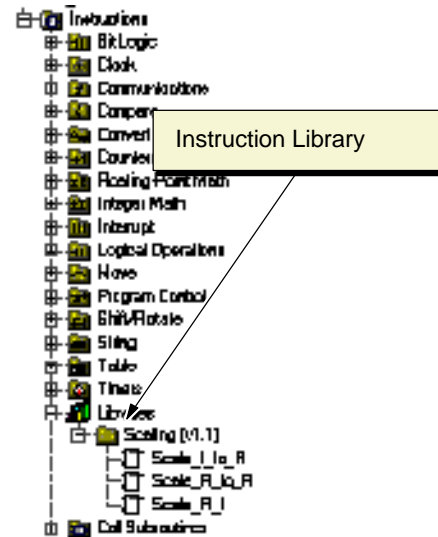

Figure 5-11 Instruction Tree with Libraries
STEP 7–Micro/WIN allows you either to create a custom library of instructions, or to use a library created by someone else. See Figure 5-11.